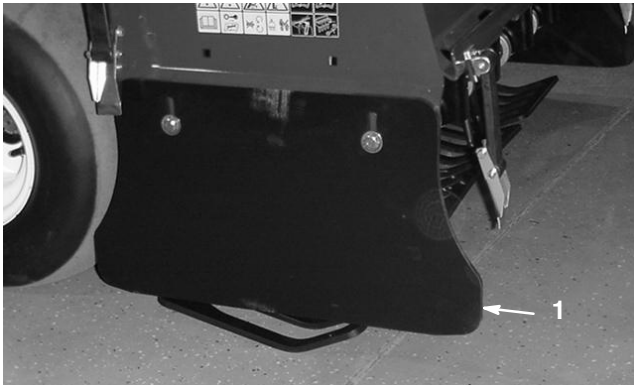

Figure 55
1. Loosen the bolts and nuts securing the side shield to frame (Fig. 55).